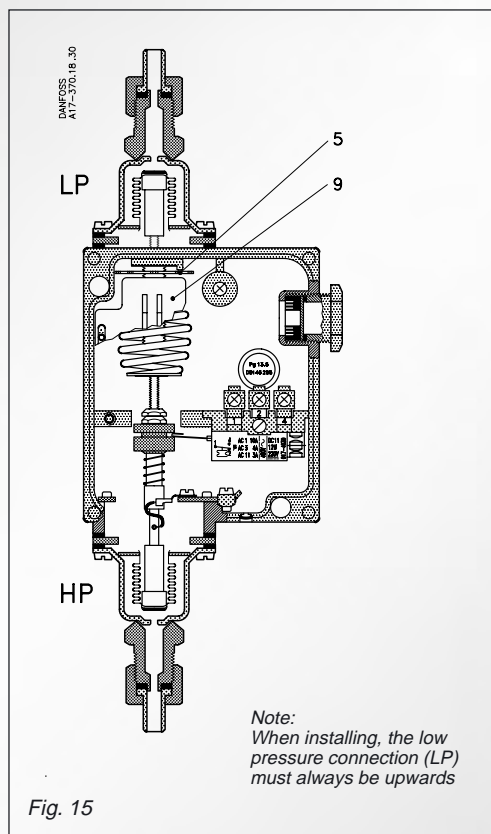

Fig. 15
The speed of a circulation pump must be controlled to give a constant differential pressure of 10 m wg in a heating plant. The static plant pressure is 4 bar. The choice is an RT 262AL. The differential disc (5) fig. 15 page 13, must be set at 1 bar (10 m wg) minus the fixed differential of 0.1 bar, i.e. 0.9 bar. The neutral zone disc is factory-set (marked in red).